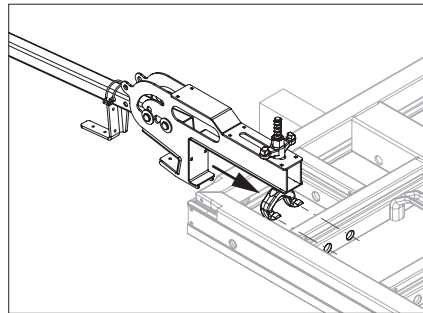
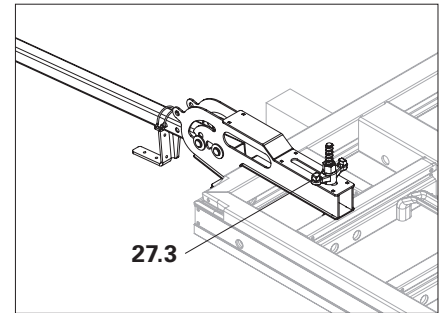
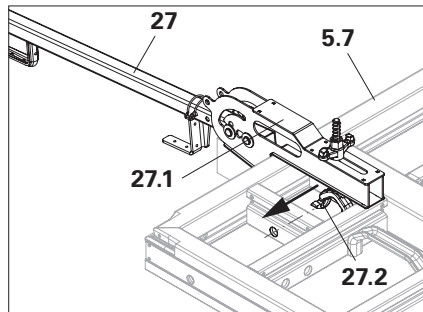
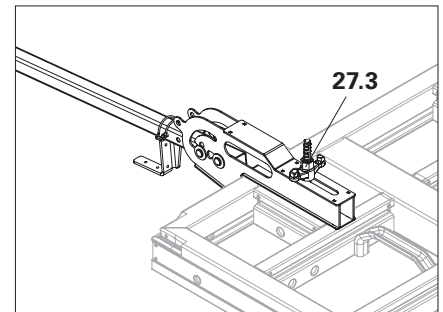

Fig. A14.01a
Fig. A14.01b
Fig. A14.02a
Fig. A14.02b
2. Insert the double hook (27.2) of the Opposite Guardrail Holder MX (27) into the connecting holes of the panel.
- Horizontal strut (Fig. A14.01a + Fig. A14.01b)
- Vertical strut (Fig. A14.02a + Fig. A14.02b)
3. Tighten wingnut (27.3). (Fig. A14.01b or Fig. A14.02b)